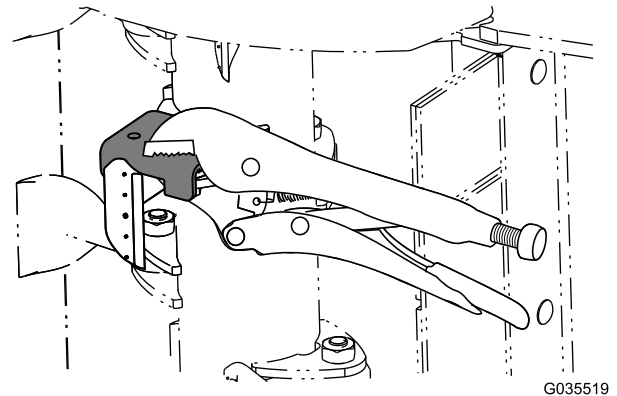

Figure 2
8. Clamp the bracket using locking pliers (Figure 2).